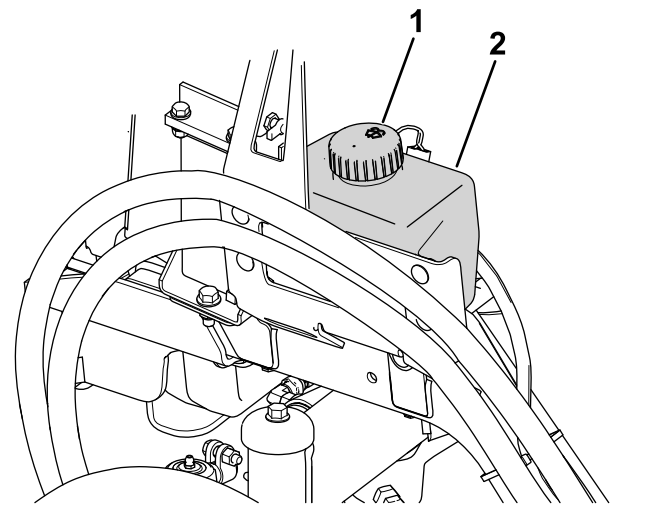

Figure 89
1. Remove the cap (Figure 89) on the reservoir.